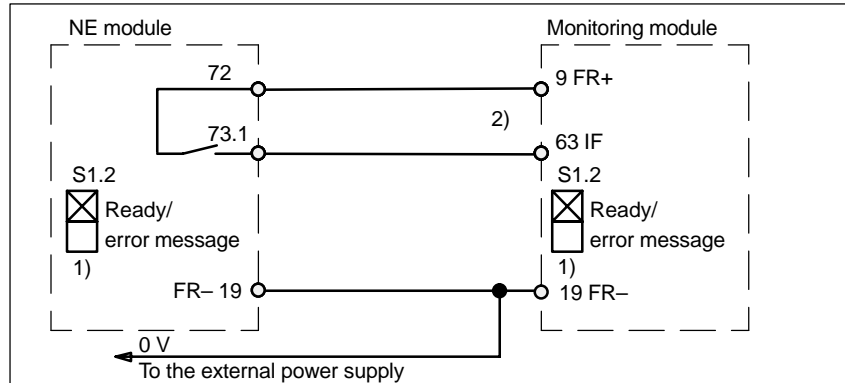

Fig. 8-7 Instantaneous shutdown, pulse enable
- Instantaneous shutdown, pulse enable —> refer to Fig. 8-7